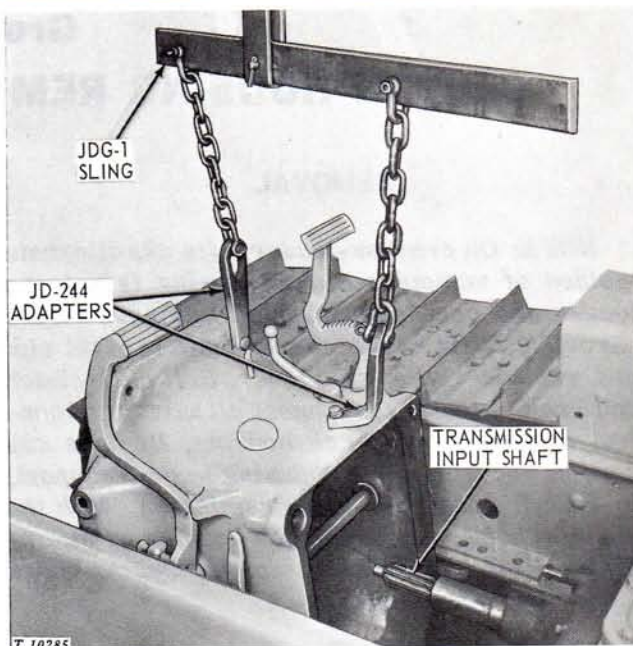

Fig. 20-10-4-Removing Clutch Housing
13. Install two JD-244 adapter tools in front and rear of clutch housing (Fig. 20-10-4).
18. With the aid of a hoist, remove clutch housing by sliding forward off transmission dowels and input shaft (Fig. 20-10-4). Be careful not to allow clutch throw-out bearing and carrier to fall out.
With the aid of hoist, sling and adapters shown in Fig. 20-10-4, slide clutch housing onto transmission dowels and input shaft. Be sure that throw-out bearing is correctly positioned.